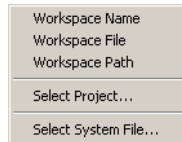

Figure 29: Custom commands, arguments pop-up menu (Navigator)
- 6 In the Arguments field, you specify the arguments to be used by the custom command. Either type the arguments, or click the  button to display a pop-up menu of arguments. See *Figure 29*, page 43.